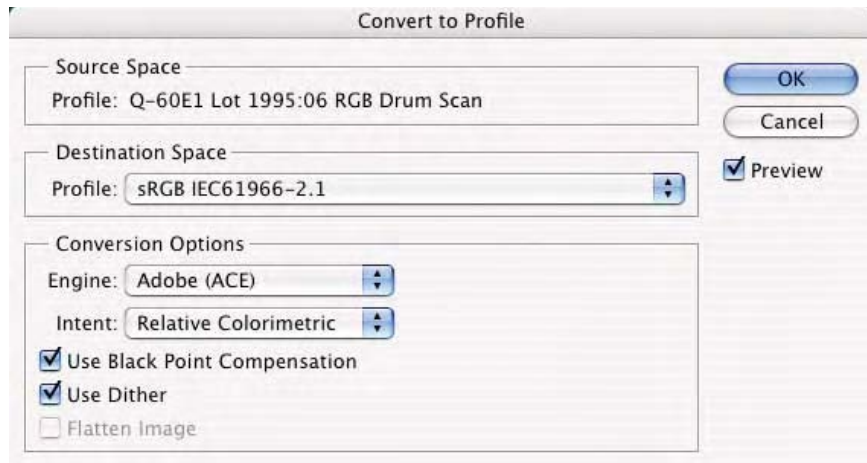

Fig. 9-4-2 The **Convert to Profile** command should be set as seen here.
4. Choose **Image-Mode-Convert to Profile** in Photoshop CS or **Edit-Convert to Profile** in CS2 as seen in Fig. 9-4-2. From the **Profile** pop-up menu, select **sRGB**. From the **Engine** pop-up menu, select **Adobe ACE**. From the **Intent** pop-up menu, select **Relative Colorimetric**. Have **Use Black Point Compensation** and **Use Dither** check boxes on. Be sure the **Preview** check box is on. Click **OK**.
The intent used for conversions into working spaces is always a **Relative Colorimetric** but for this tutorial, pick that intent as seen in Fig. 9-4-2. All matrix-based profiles (of which all working spaces are built) use the **Relative Colorimetric** intent even if a user picks **Perceptual** or **Saturation**.